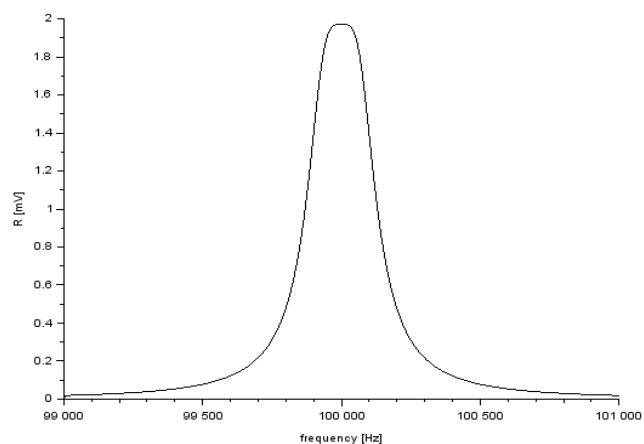

Figure 56: **Time Constant** = 10 ms, Senderfrequenz externer Generator 100 kHz
Basically, this examples shows how to investigate I(V)- and dI/dV-curves with a lockin amplifier. Two graphs display In(AUX) and R(AUX) as result. Fig. 56 Shown the result one obtains if a diode is taken as device under test, which is quite illustrative due to the non-linear I(V) curve of a diode.